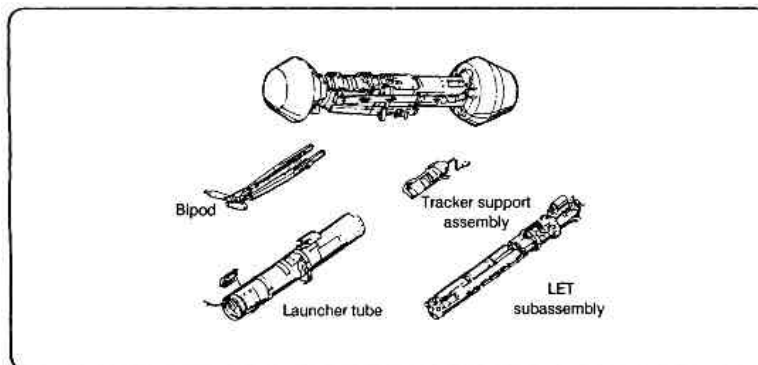

Figure 6-2. LET components.
The LET simulates the tactical round in appearance, weight, center of gravity, and some launch transient characteristics (Figure 6-2). The LET uses the M64 blank rifle grenade cartridge to simulate the noise, recoil, and weight shift from the gunner's shoulder and the time delay between trigger squeeze and launch.
b. The LET consists of a bipod, launcher, tracker support assembly, and LET subassembly. Attached to the launcher are the forward and rear shock absorbers and the sling. The bipod assembly includes a tube and yoke assembly with a brace latch. A modified tactical version of the tracker support assembly is employed for multiple use, which supports and secures the tactical tracker in place. It also provides the electrical interface between the tracker and LET (Figure 6-2).